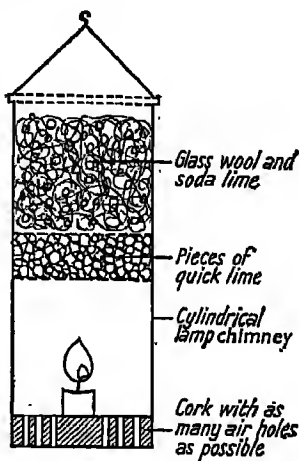

FIG. 111. To show that a change in weight occurs when a candle burns.
**Expt. 153. To find if there is a change in weight when a candle burns.** Push a piece of wire gauze half-way down a cylindrical lamp chimney (Fig. 111). On the gauze place some small pieces of quicklime. On top of this place a mixture of glass wool and soda-lime reaching almost to the top of the chimney. Fit to the other end of the chimney a cork through which many holes have been bored. Place a candle on the cork in the position shown in the figure. Suspend the lamp chimney from one arm of a balance and counterpoise it. Remove the cork from the chimney, light the candle, and replace the cork in position. Soon the balance shows an increase in weight on the candle side.